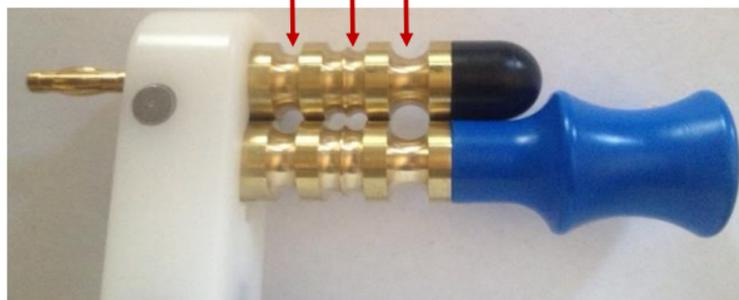

Figure 3
Steps for Use of Product	<ol style="list-style-type: none"> 1. Push on the top of the Wire Testing Unit until the suction feet are secure. 2. Connect the earth (ground) green wire to the MM513-100 base unit's green port. 3. Connect the high-voltage (HV) red wire to the MM513-100 unit's red port, connect the yellow handle's red port to the connection pin. (The HV red-wire is an option to the MM513-100 kit). 4. As much as possible, lay the wire to be tested on a flat surface and flatten it out. 5. Attach the alligator clamp at the end of the earth wire to the exposed end of the wire to be tested. For a duplex wire, make sure the alligator clamp is attached to BOTH conductive cores. 6. Separate the drums by pulling down on the blue handle (#2) so that the top drum comes to a stop. (Fig. 1). 7. Insert the wire to be tested into the appropriate slot according to the diameter of the wire. The slots are 4.0 mm (on pin side #4), duplex 3 mm (middle), and 5.5 mm (near the handle). (Fig. 2). 8. The table for wire to slot size, see (Fig. 3). 9. The blue handle is spring-loaded and will close against the top drum (#1 above). Make sure the wire remains in the designated slot during the test. 10. Turn the MM513-100 base unit on and set the kV to 4.2- ± 0.3 kV. 11. Hold both ends of the wire and slowly pull the wire through the slot. (NOTE: You can move the wire either forward or back during the test.) 12. If the alarm sounds and LED lights up, then the wire has pinhole or crack through to the conductive core. 13. The McGan Wire Testing Unit will ONLY locate and identify defects that are through to the core and ONLY for wires defined as a conductive core (usually copper) with a jacket covering the core. NOTE: This device will not test cables (e.g., conductive core, dielectric, shield and outer jacket, or any wire that does not have a jacket directly over the core). 14. Optional: Pull the wire back through the slot to re-check the jacket. 15. After completing the test, turn off the MM513-100. 16. Separate the drums by pulling down on the blue handle and removing the wire. 17. Remove the wire that was tested while following the proper facility procedure for disposition or reuse of the wire. 18. The MM513-100 should always be switched off prior to removing or repositioning of the wire under test.